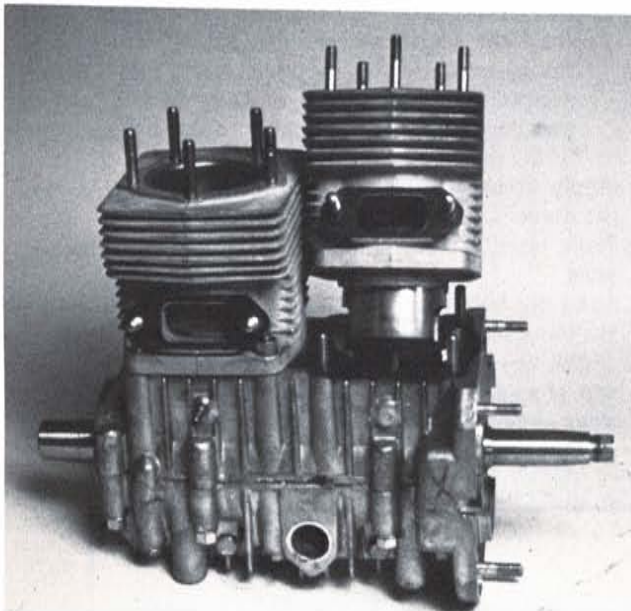

FIG. 32
8. Install new cylinder base gaskets on crankcase, lubricate piston and rings, carefully guide cylinder over pistons and into position on crankcase. Reinstall washer and nuts, but do not tighten completely at this time. (Fig. 32)